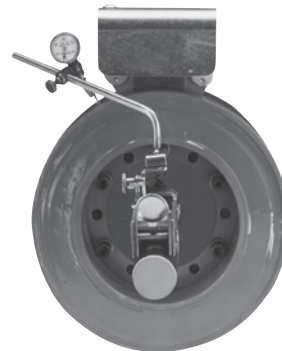

Figure 3
4. Use a dial indicator to check the unit for concentricity and squareness to the shaft. The unit should be concentric within .010 T.I.R. and square within .006 T.I.R. (Figure 3)